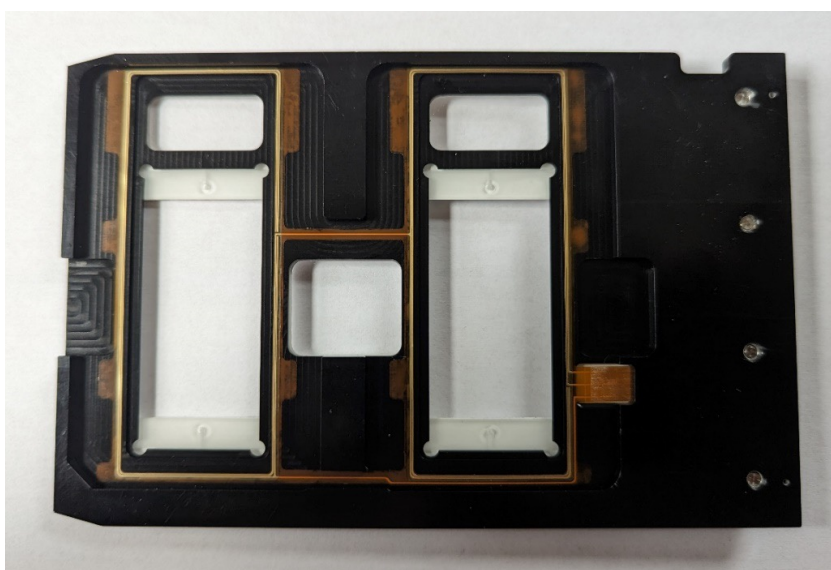

Figure A.1. Bottom of PhenoCycler Flow Cell Slide Carrier without Magnetic Slide Retainer to show the Leak Detection Circuit.
2. Examine the Leak Detection Circuit. (see Figure A.1) for liquid or salt residue to confirm the leak location. Wipe away any remaining liquid with a dry Kimwipe or lint-free cloth.